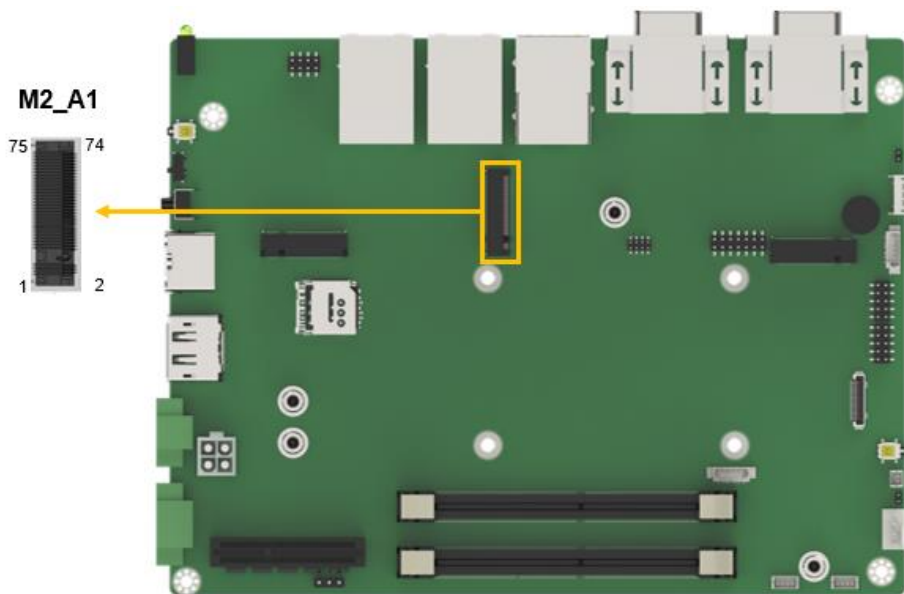

Figure 4-10: M.2 A-key Slot Location
- CN Location:** See **Figure 4-10**